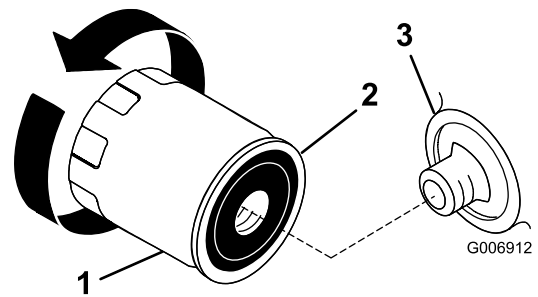

Figure 31
- Remove the old oil filter and wipe the filter adapter (Figure 31) gasket surface.
- Apply a thin coat of new oil to the rubber gasket on the new oil filter (Figure 31).
- Turn the oil filter clockwise until the rubber gasket contacts the filter adapter, then tighten the oil filter an additional 1/2 to 3/4 turn (Figure 31).